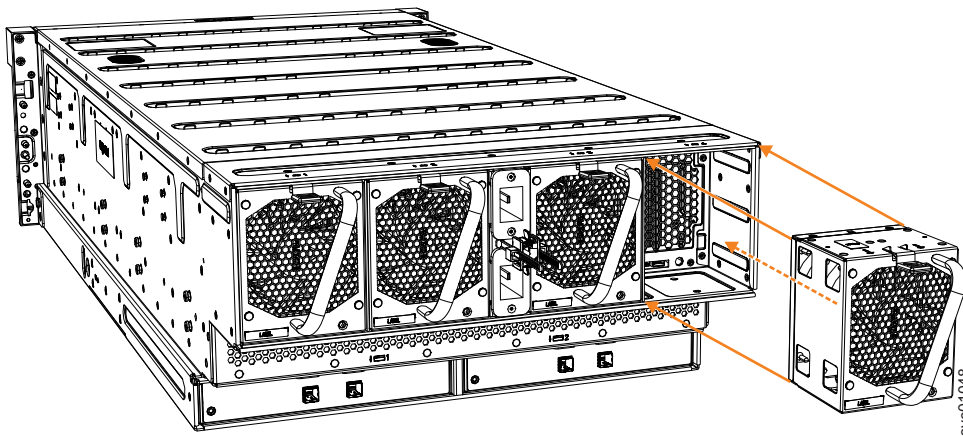

Figure 80. Replace fan module
2. Carefully insert the fan module into the chassis until it clicks in place, as shown in Figure 80.